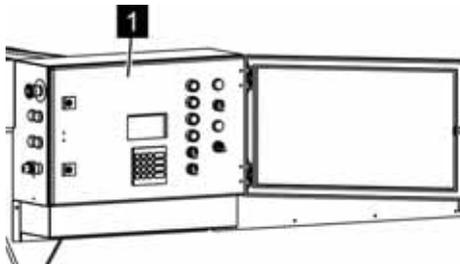

Fig. 150: Opening the door
2. ➤ Open the door (Fig. 150/1) of the bottom control with the included double bit key (↪ Chapter 4.6.1 'Keys' on page 66).